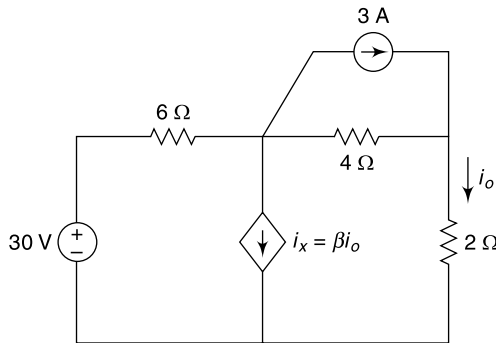

Fig. 4.158 Circuit of Ex. 4.127
4.127 In the circuit shown in Fig. 4.158, find i_o assuming $\beta = 8$. Use the superposition principle.
First we take the 30 V source [Ref. Fig. 4.158(a)]